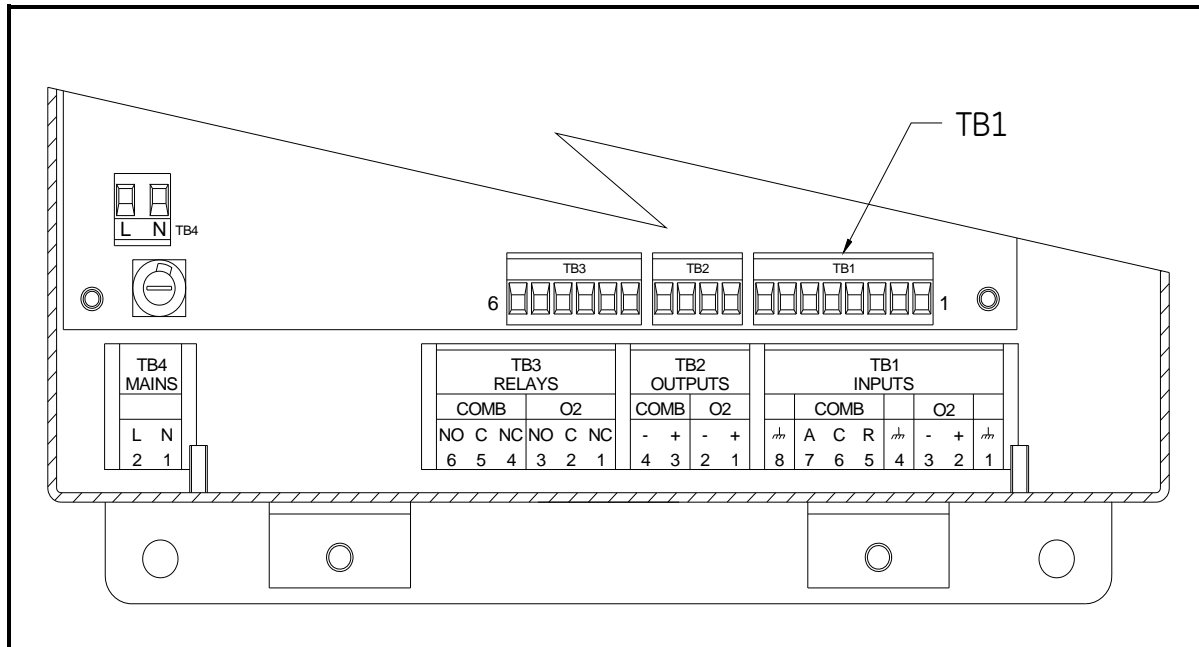

Figure 32: Display Electronics Console - TB1
1. Disconnect the oxygen sensor leads from pins 2 and 3 of terminal block TB1 in the Display Console. See Figure 32 for the location of TB1.